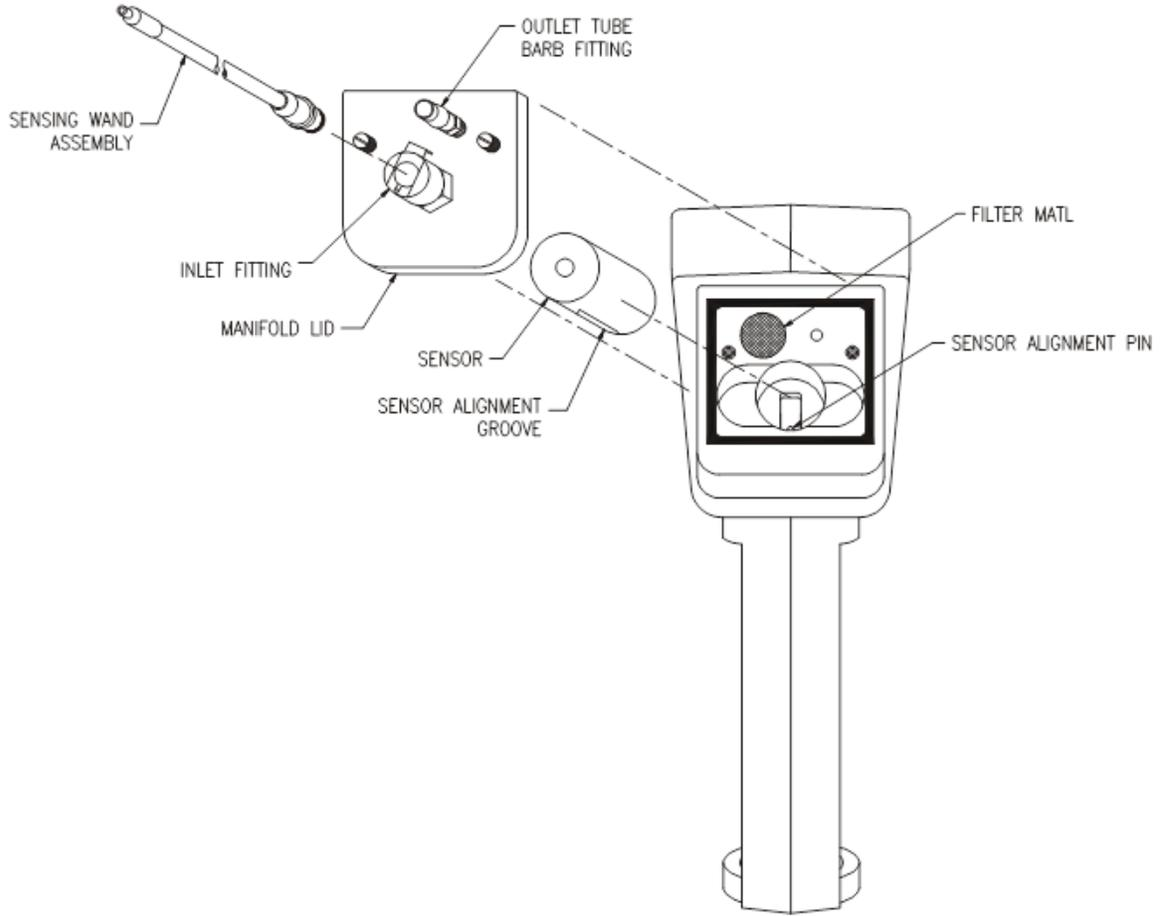

Figure 2. PortaSens II, Rear View (ATI-0403)
- Sampling Wand (Figure 2)
- Outlet Tube Barbed Fitting (Figure 2)
Referring to Figure 2 on page 7, loosen the two thumb screws and remove the flow manifold lid on the rear of the device. If a sensor module is already installed, grab the sides with your index finger and thumb, and pull straight up. Slide the new module into the recess, connector first, and rotate it to align the groove on the sensor with the guide in the recess. Press down on the sensor to seat the connector. The face of the sensor module should be flush with the outer surface of the recess.
The *PortaSens II* is simple to operate. After removing the device from the storage case, install a gas sensor module (see Changing the Sensor on page 12) and plug the sampling wand into the inlet port of the manifold (Figure 2 on page 7).